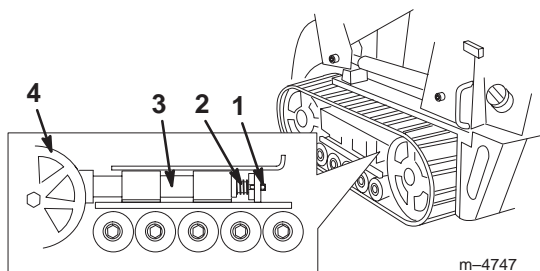

Figure 1
3. Remove the locking bolt and nut (Fig. 1).
4. Using a 1/2 in. drive ratchet, release the drive tension by turning the tensioning screw clockwise (Fig. 1 and 2).